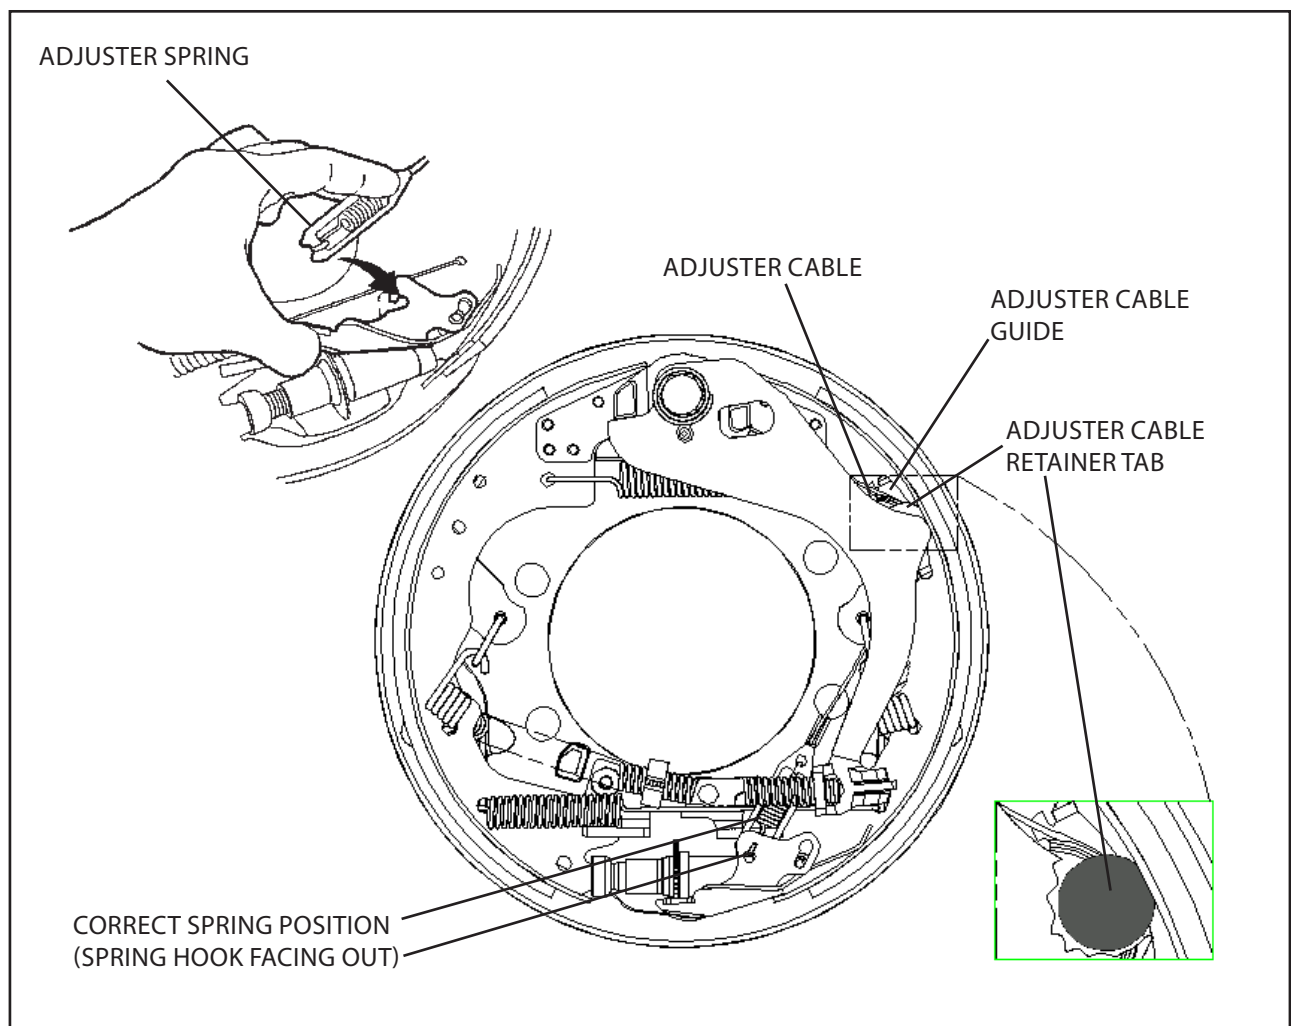

Figure 12. Adjuster Cable Installation
10. Route the adjuster cable around the adjuster cable guide, under the shoe hold down spring, and attach to the adjuster lever as shown in Figure 12. Install adjuster cable retaining tab if so equipped.
Note: Correctly assembled, the adjuster cable end-fitting is behind the adjuster lever, with the spring hook facing out as shown in Figure 12.
6. Route the adjuster cable around the adjuster cable guide, under the shoe hold-down spring, and attach to the adjuster lever as shown in Figure 12. Install adjuster cable retainer tab if equipped.
Note: When correctly assembled, the adjuster cable end-fitting is behind the adjuster lever with the spring hook facing out as shown in Figures 12 and 18. Failure to do so may result in reduced brake operation.